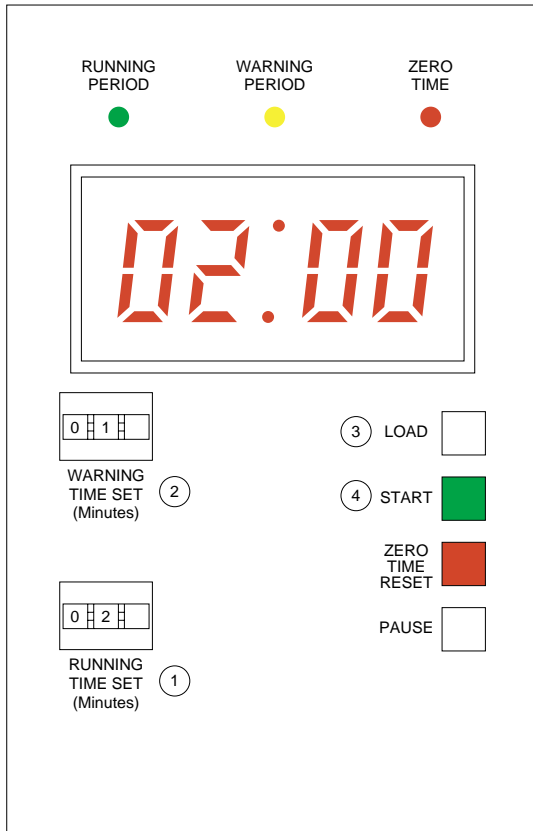

Figure 2
- 3) Press the START button and the PT-1 will count down from the RUNNING TIME SET to the WARNING TIME SET and stop at zero. Refer to Figure 2.